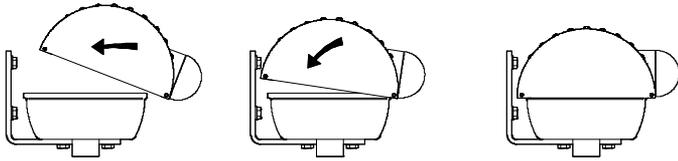

Fig 7. Seating the cover
1. Hold the cover over the motor, with the front of the cover angled toward you. Rock the cover rearward (fig. 7) until the cover is seated. The cover must be installed in this way so that the Manual Operation cam engages properly with motor (fig 8).